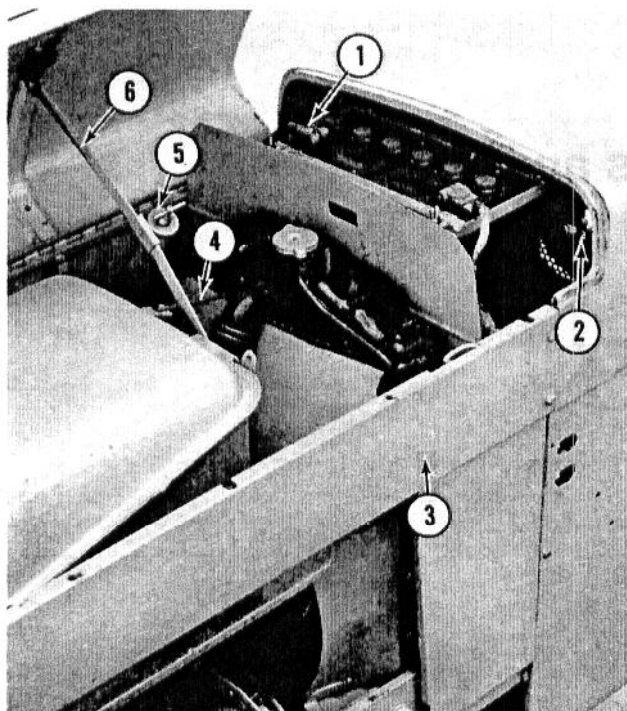

Fig. 2 — VIEW OF BATTERY AND RIGHT FRONT HEADLAMP (Gas Engine)
2. Open tractor hood and disconnect battery. Also disconnect headlight wire (along right-hand side panel) from right headlamp. See Fig. 2.